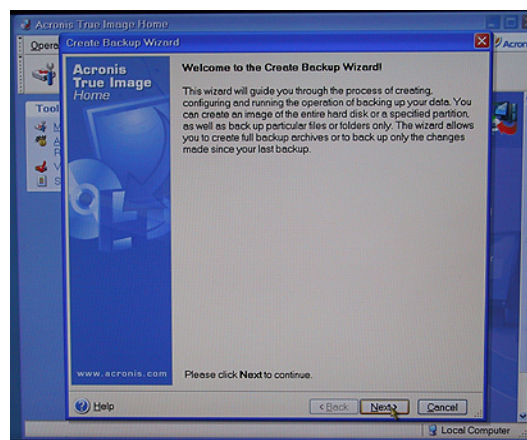

Figure A-8
- 6) Follow the actions depicted by the screenshots shown in Figures A-8 through A-22.